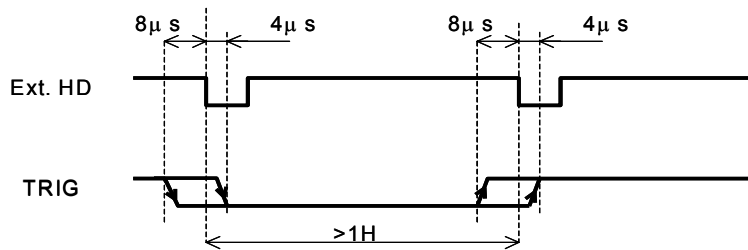
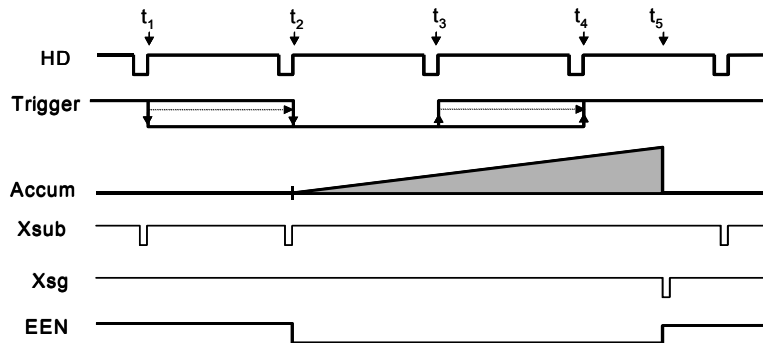
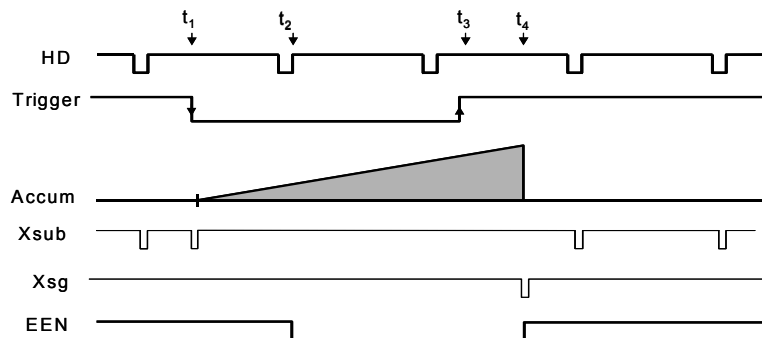

Fig. 17. Trigger/HD Timing.
Fig.18. Pulse Width H Synchronous Accumulation
Fig. 19. Pulse Width H Asynchronous Accumulation.
The default accumulation is HD synchronously accumulation (HC=0). The accumulation starts at the first HD after the trigger leading edge. Fig. 18. To avoid the  $<1H$  jitter caused by this delay, synchronize the external trigger to HD as shown in fig. 17 below. The trigger level translations should be placed inside the  $8 + 4 \mu\text{s}$ .
In PWC mode (TR =2) and Frame Delay readout (TR=3), the accumulation mode *HC* can be set to asynchronous accumulation (HC=1). The exposure will start immediately at the leading edge of the trigger pulse without waiting for the HD. Fig. 19. below.
- The start of exposure will start synchronized to the internal H signal. The start may be shifted max 1H. To avoid this shift (1 H jitter), synchronize the camera to an external HD and make sure that the trigger pulse aligns to the HD as shown in fig. 17.
- With HC=0 the start of exposure will start synchronized to the internal H signal, the start of exposure may be shifted max 1H. To avoid this shift (jitter), synchronize the camera to an external HD and make sure that the trigger pulse aligns to the HD as shown in fig. 17.
- With HC=1 the exposure will start immediately. Refer to fig. 18 and fig. 19.